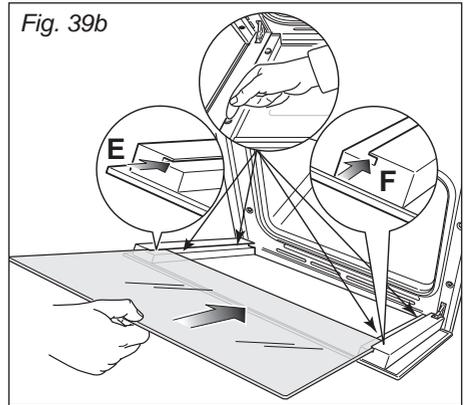
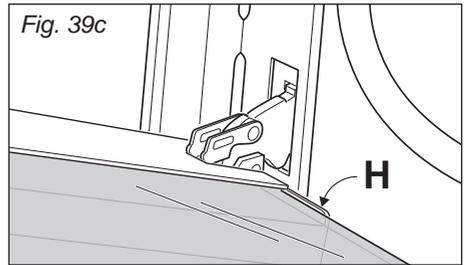

Fig. 39b
Fig. 39c
IMPORTANT: It is advisable, while refitting the glass, to keep pressed in position the four rubber pads "D", by a finger, to avoid breakage or slippage of the rubber pads themselves (fig. 39b).
- Insert the pane in the left "E" and right "F" slide guides (fig. 39b), and gently slide it to the retainers "H" (fig. 39c).